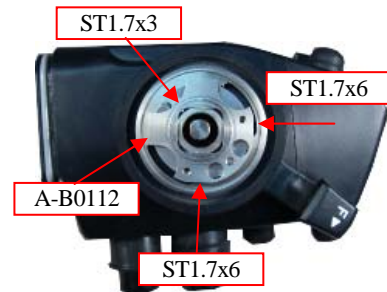

Fig.7-1-4
- 7) While pressing A-B0112, tighten 3-screws (2-ST1.7x6, ST1.7x3) of A-B0112 through the hole of B0116 and apply SLK-R to the head of screws. (Fig.7-1-4)